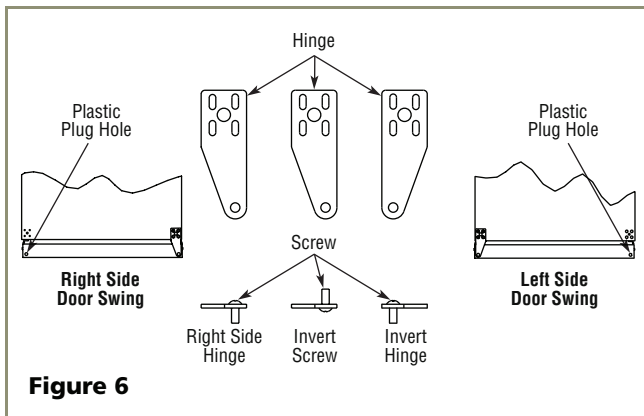

Figure 6
4. Remove pivot screw from top hinge, invert screw and reinstall pivot screw in top hinge. See **Figure 6**. Do not install hinge on cabinet at this time.
6. Remove pivot screw from bottom hinge, invert screw and reinstall pivot screw in hinge. See **Figure 6**.